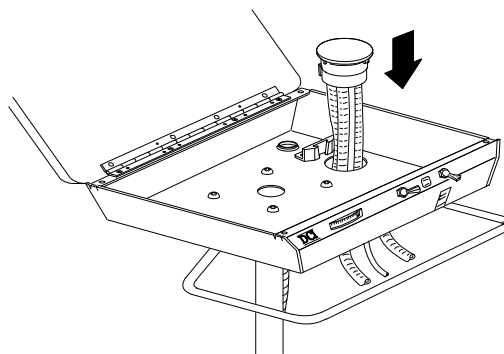

Figure 3
- a. Route the saliva ejector, the two HVE's, and the drain tube through the 2" diameter hole in the base of the control unit. (*Figure 3*)
- b. Press the bracket on the vacuum canister into the mounting bracket next to the 2" diameter hole. The canister fits over the hole. (*Figure 3*)